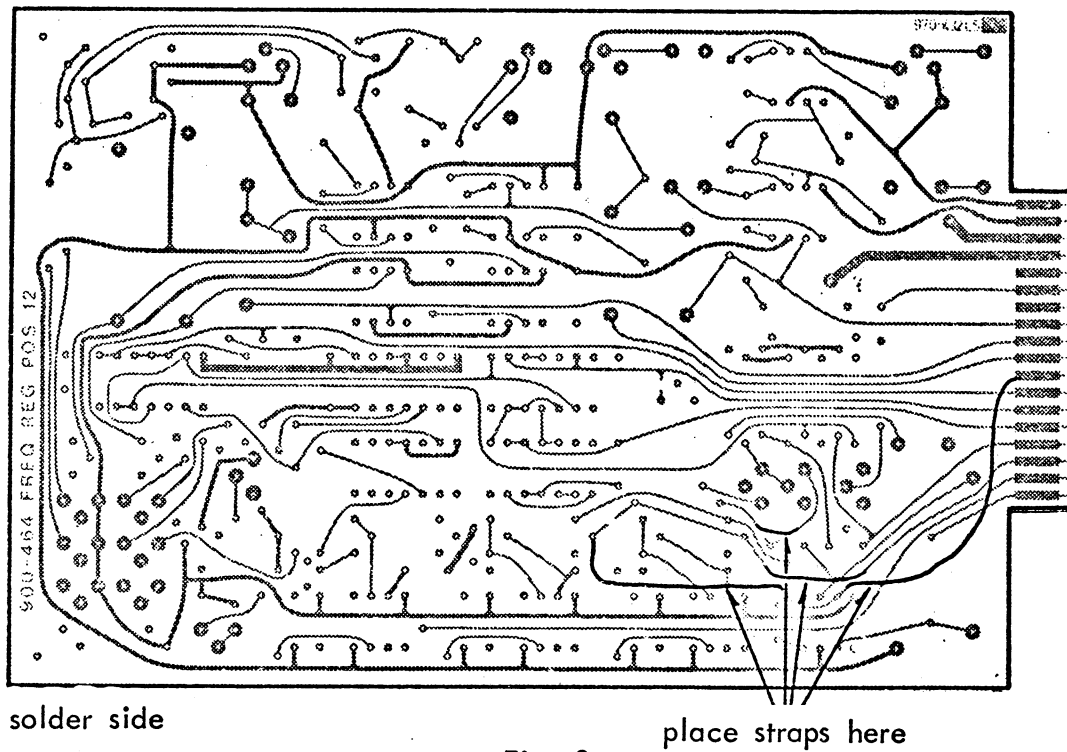

Fig. 3.
3. Place straps on the solder side as shown in Fig. 3.